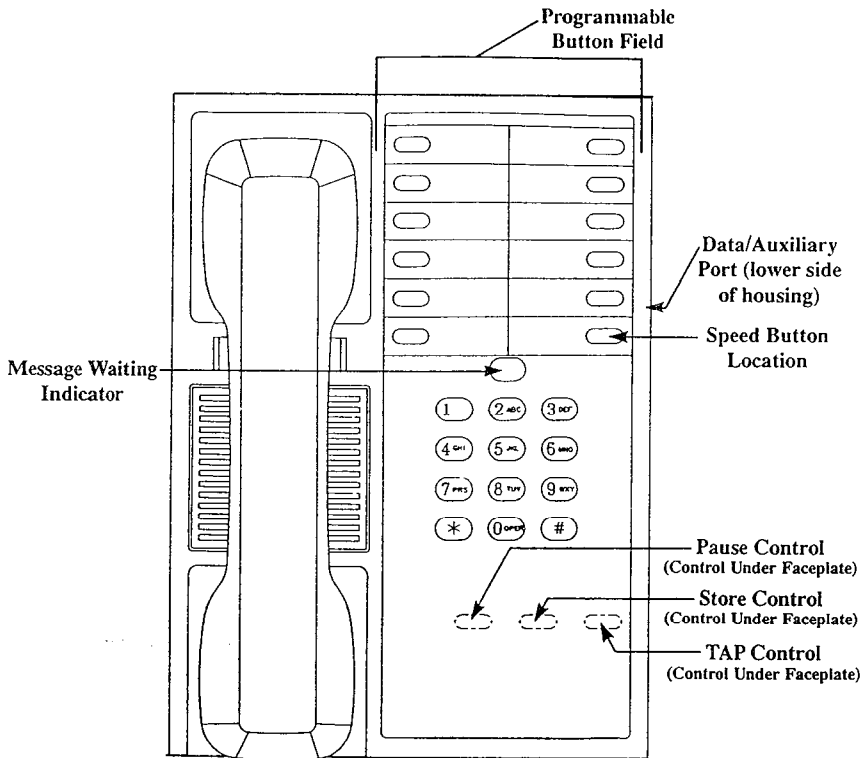

Figure 2. Model 3809X HoTelephone Controls and Indicators
Operating this single-line telephone (Figure 2) is straightforward and easy.
All 12 programmable buttons may be used for number storage, or you may use 11 programmable buttons for number storage and store a SPEED button function in the lower right-hand programmable button location (Figure 2). The SPEED button lets you store additional numbers using keypad locations. Memory contents are protected by a long-life lithium battery, which provides memory-retaining power for approximately seven years.
2. Refer to Figure 2 for the actual location of the controls for PAUSE, STORE, and TAP.
1. Press **STORE**, *****, and lower right-hand programmable button (Figure 2).